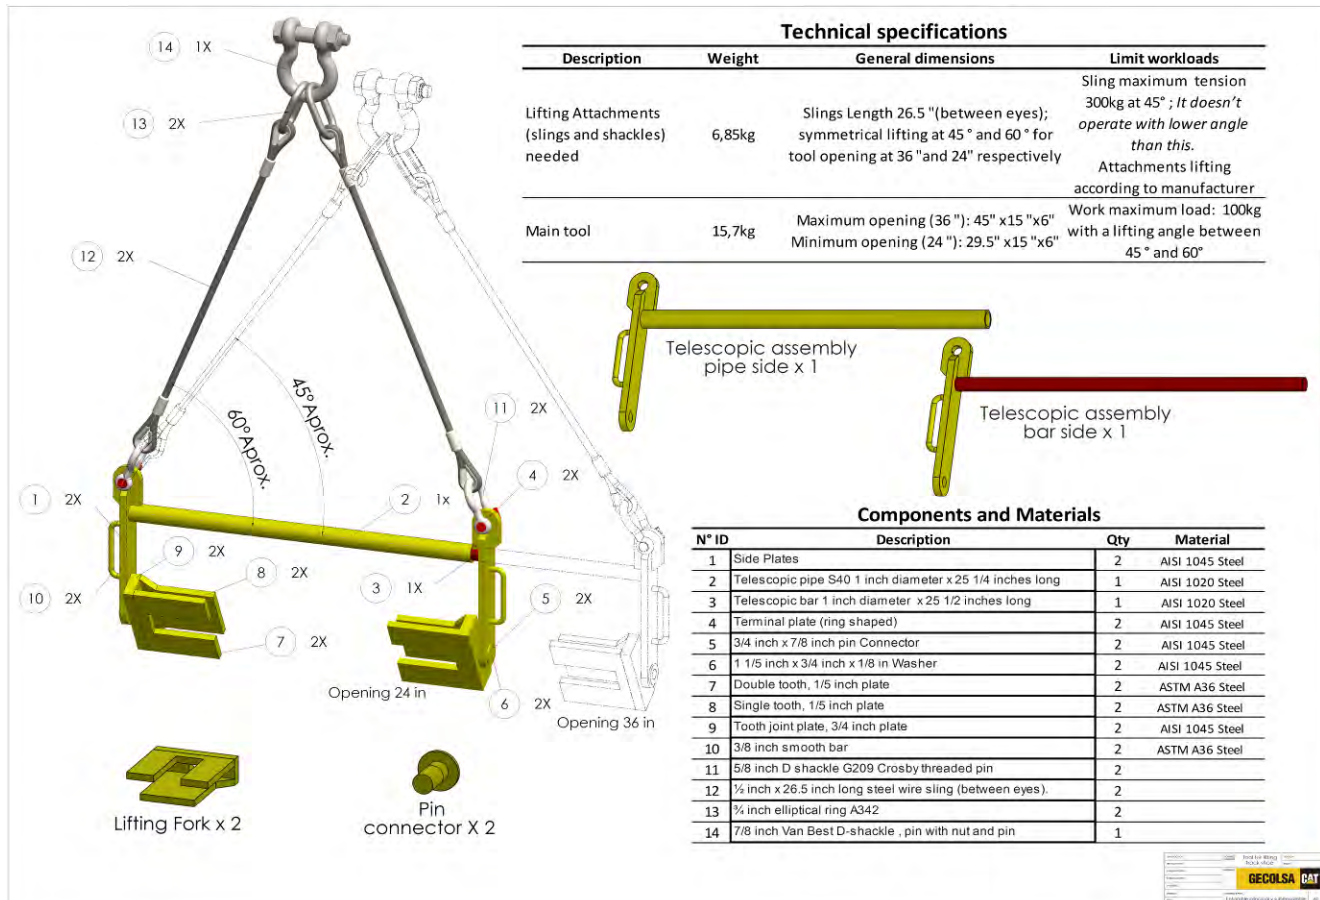

Fig.3. New proposed track shoe lifting tool
At the upper ends of the tool we can see terminals made of 1045 steel sheet having ¾" diameter bore, as anchor points. These are located to permit the installation and precise auto center of the bolt shackle threaded up to 5/8". This way, the closing pin of these can easily turn over the bore, always having symmetry between the two anchor points. Forming 45° to 60° angles for the opening of a 36" and 24" tool respectively. Two steel wire slings of 26.5" long with a low resistance of 300kg each, close the lifting triangle by means of a master link or shackle of 7/8" (see Figure 3).
- o Screwed pin lower shackles (See Fig. 3)
- o Pin upper shackle, nut and safety pin (See Fig. 3). It can also use a master link assembly
- Once you have the lifting equipment complete, including the main tool as shown in Fig. 3. You must extend the telescopic bar enough to exceed the width of the shoe that will be hoisted (See Fig. 4).
- Materials and components required (See Fig. 3)